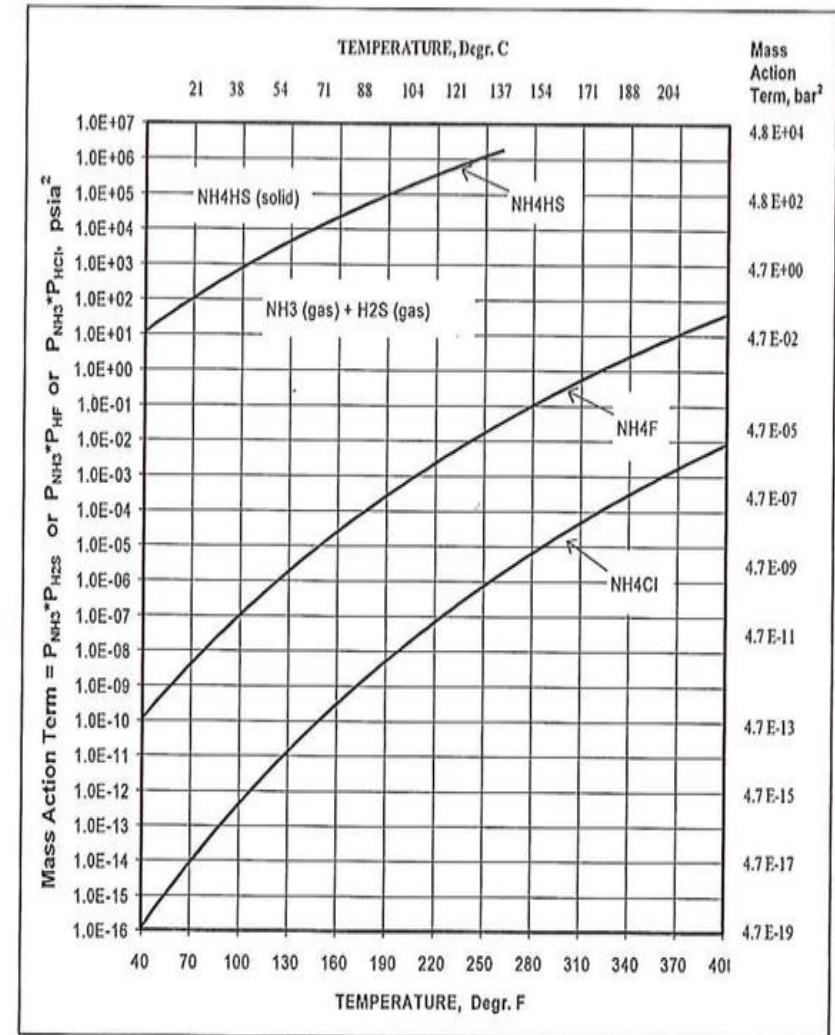

Figure 2: NH4Cl desublimation/deposition graph
- The graph in Figure 2 shows the desublimation temperature for a given process NH3 and HCl partial pressures.